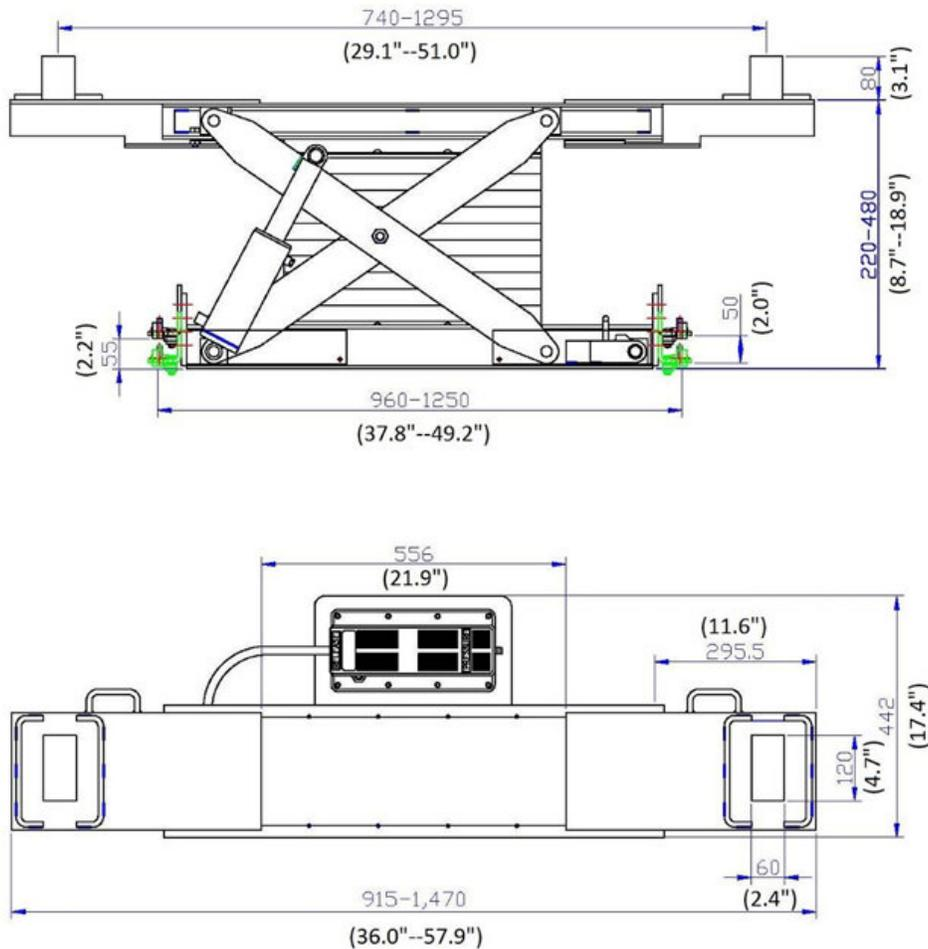

Fig. 1
- B. The roller body assembly wheels are adjustable for an inside runway width of 37.8" (960 mm) minimum to a 49.2" (1250 mm) maximum. (Fig.1)
- C. The RAJ-6K Rolling Jacks are equipped with (1) pair of rubber contact pad adaptors that can be positioned at 2.75" to 4.75" for differ pad heights.
- E. The RAJ-6K Rolling Jacks are maneuvered on four (4) heavy duty rolling bearing wheels. Actual vehicle load is transferred to the jack's roller body assembly's spring bars, which engages the runways jack rails to secure jack from moving, while under load.